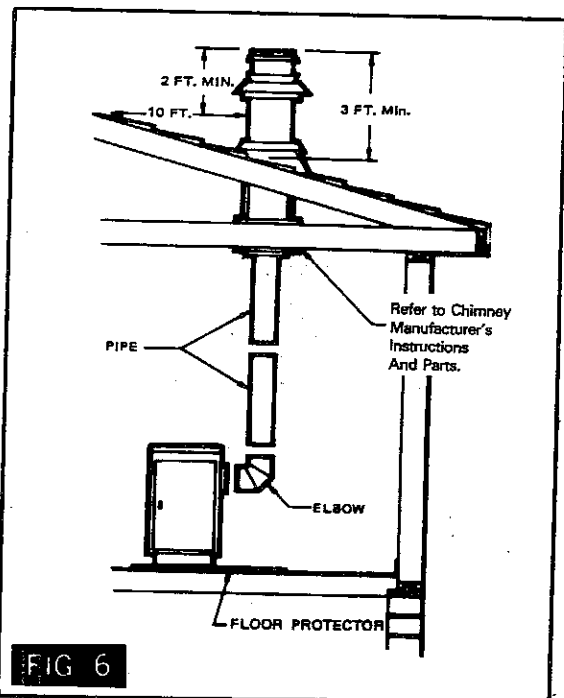

FIG 6
1. The chimney connection should be as short as possible. The heater must have its own chimney. Do not connect this unit to a chimney flue, serving another appliance. If there is no chimney near where you wish to place the heater, you can use a UL Listed Residential Type and Building Heating Appliance Chimney (Fig. 6).
Carefully follow chimney manufacturer's instructions. Use only a UL Listed Residential Type and Building Heating Appliance Chimney. If your chimney starts at the ceiling (Fig. 6), you will need a 6" elbow and enough 6" pipe to reach the ceiling.
The top of the chimney must be at least 3 feet above the roof and be at least 2 feet higher than any point of the roof within 10 feet (Fig. 6).